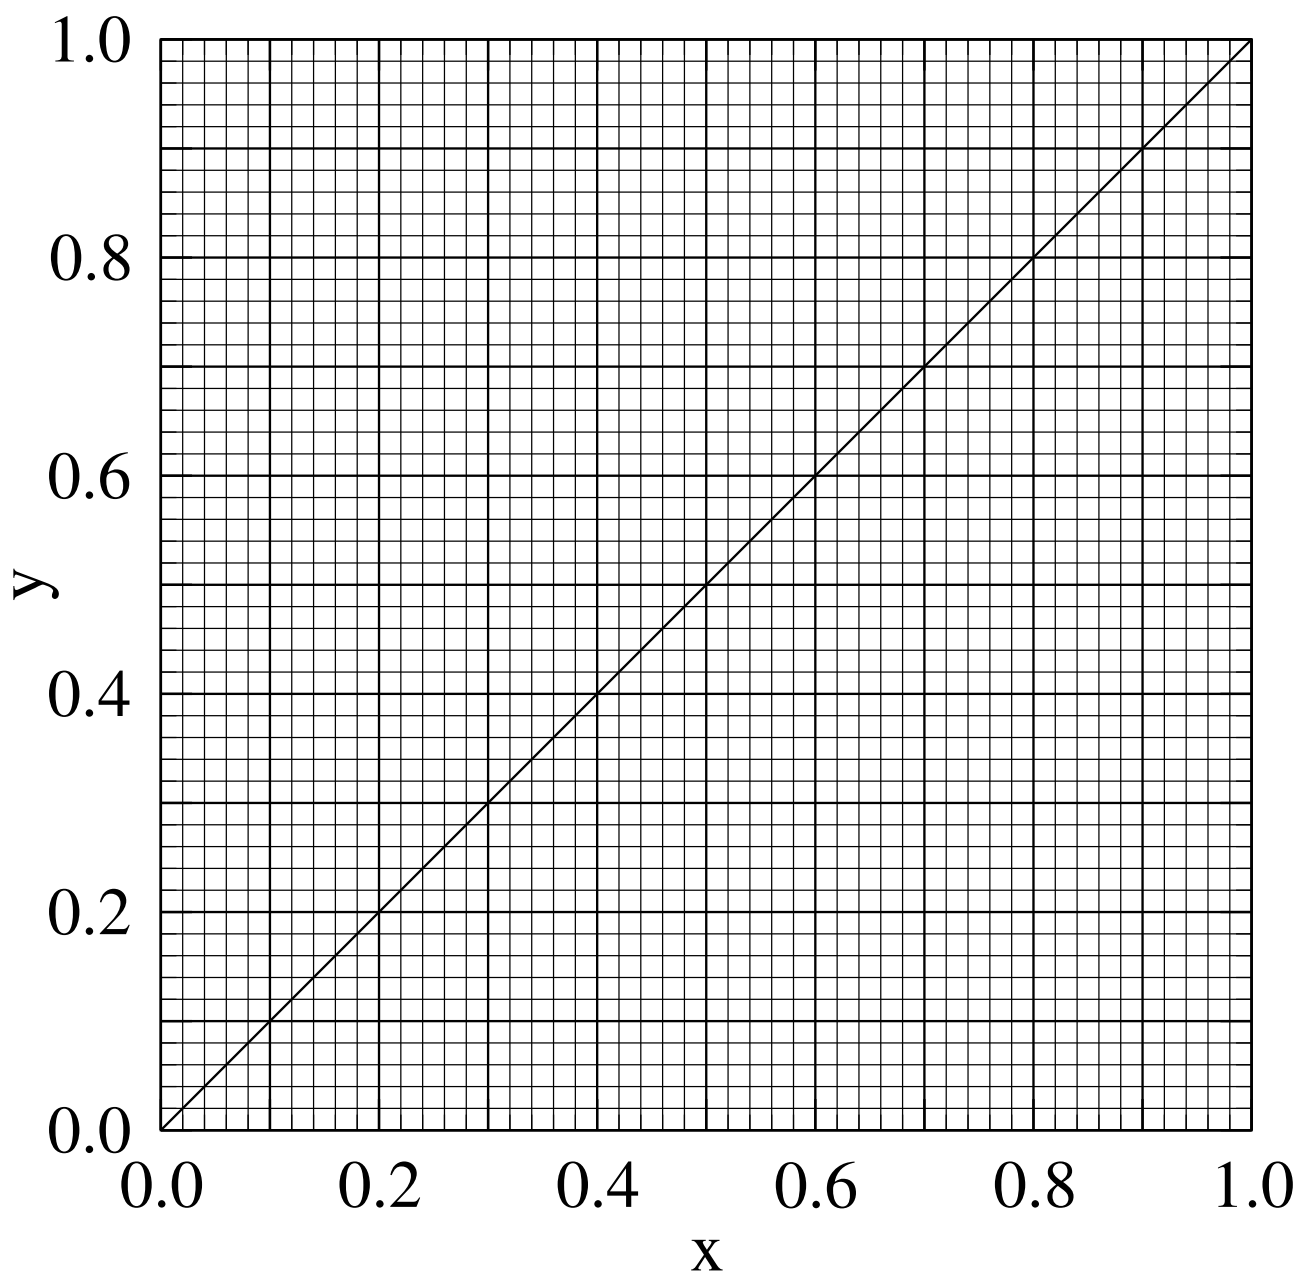

Figure 20: A blank chart for plotting VLE/operating-line data on. For use in Q. 23.
- a) Calculate the number of theoretical trays required to perform this distillation **and** the feed tray number. A blank VLE graph is given in Fig. 20.